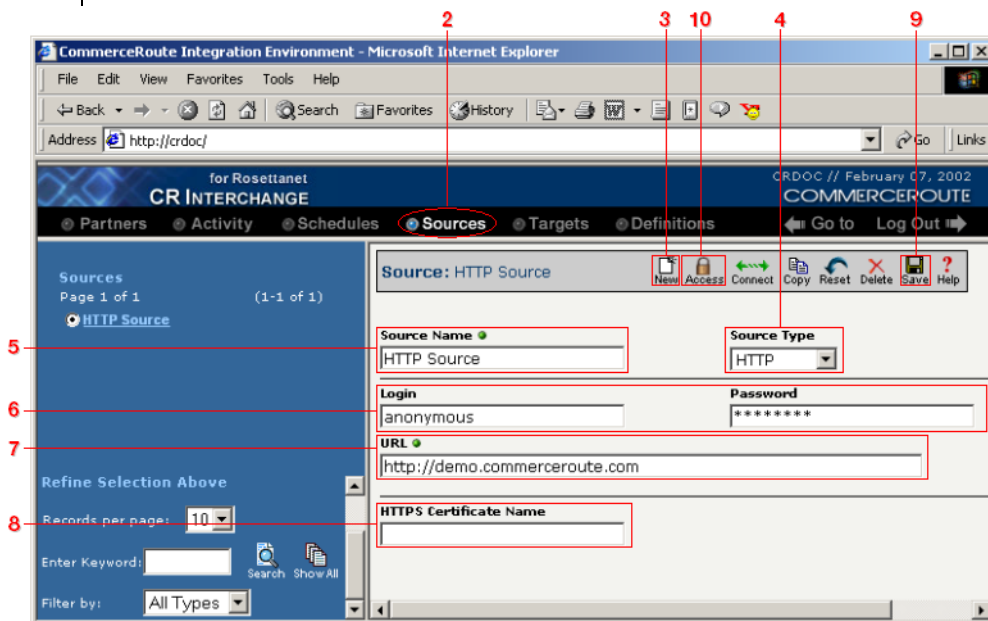

Figure 7-4. Follow the steps listed above to successfully define a new HTTP source.
Follow these steps to create a new HTTP source definition. Each step is marked in Figure 7-4 below.
- ❶ Log in to the CR Interchange environment (see “Log In to the Tour” on page 2-2 for details).
- ❷ Click on the **Sources** button in the main navigation bar at the top of the screen.
- ❸ Click on the **New** button in the toolbar to create a new source definition.
- ❹ Select “HTTP” from the **Source Type** drop-down menu.
- ❺ Enter a unique name for your source definition in the **Source Name** field.
- ❻ (Optional) Enter an appropriate login and password for the Web server in their respective fields.
- ❼ Enter a valid URL address in the **URL** field.
- ❽ (Optional) If you want to use Secure HTTP (HTTPS) and you want to provide a client certificate for authentication purposes, enter the name of the security certificate in the **HTTPS Certificate Name** field.
- ❾ Click the **Save** button in the toolbar. Compare your definition to that shown in Figure 7-4 below.
- ❿ (Optional) If you want to give other users and/or groups access to this definition, click the **Access** button in the toolbar.